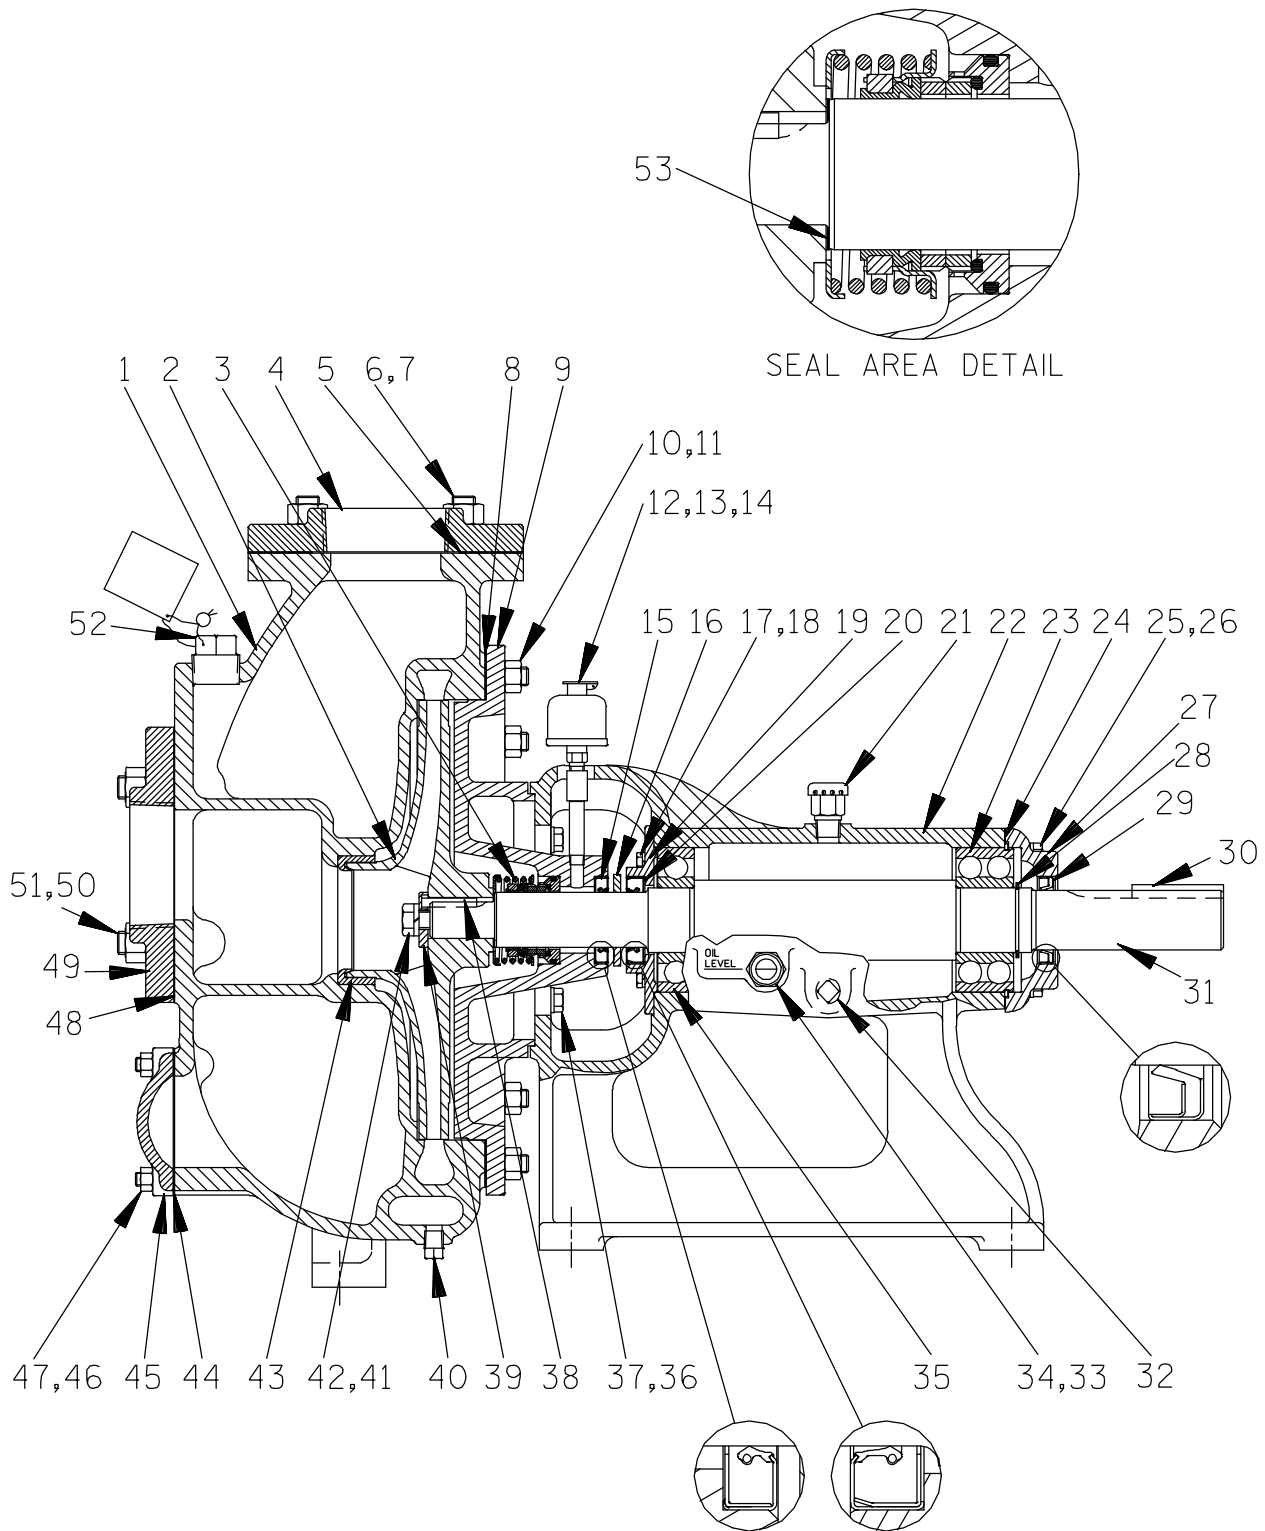

Figure 1. Pump Model 03A20-B
This pump requires little service due to its rugged, minimum-maintenance design. However, if it becomes necessary to inspect or replace the wearing parts, follow these instructions which are keyed to the sectional view (see Figure 1) and the accompanying parts list.
(Figures 1 and 2)
Position the oil seal (20) in the bearing cap (19) with the lip positioned as shown in Figure 1. Press the oil seal into the bearing cap until the face is **just flush** with the interior surface of the bearing cap.